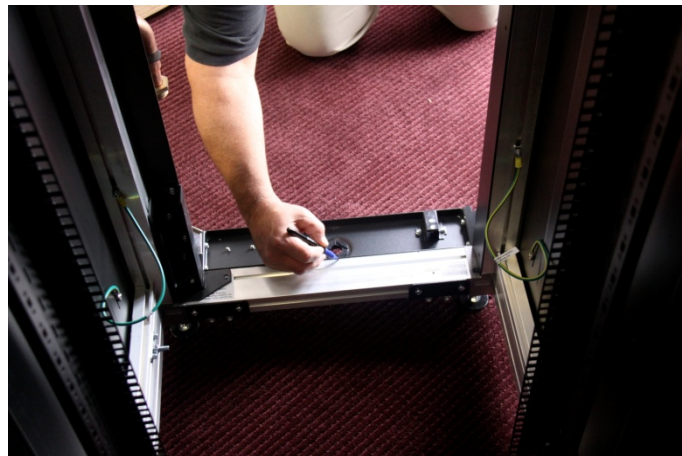

Figure 10 Marking the position
- 3 After that, insert the spring nuts into the groove of the rack aluminum profile in to previously marked position (Figure 10).